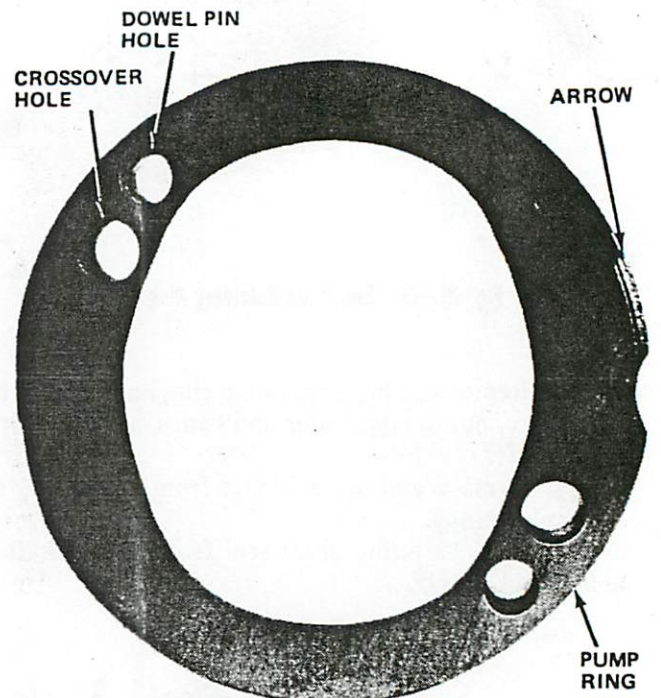

Fig. 2L-57 Pump Ring Dowel Hole Locations
- (8) Install pump ring on dowel pins and over rotor and thrust plate. Pump rotation arrow on pump ring must face upward when ring is installed (fig. 2L-58). Do not displace end plate O-ring during ring installation.
- (9) Install rotor vanes in rotor slots (fig. 2L-59). Rounded edges of vanes must face outward.
- (10) Lubricate pressure plate outside diameter and chamfered surface with petroleum jelly.